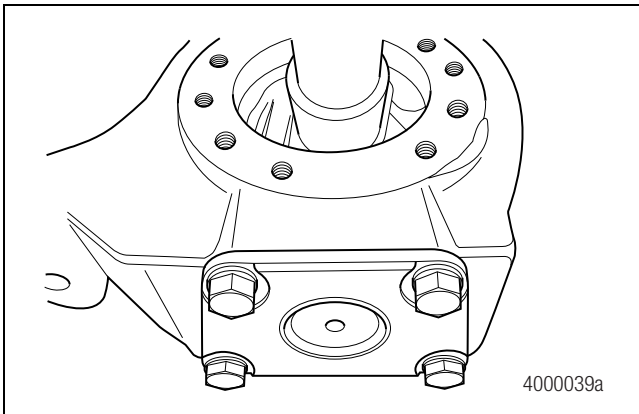

Figure 3.18
1. Remove the four capscrews and washers from the lower knuckle cap. Figure 3.18.